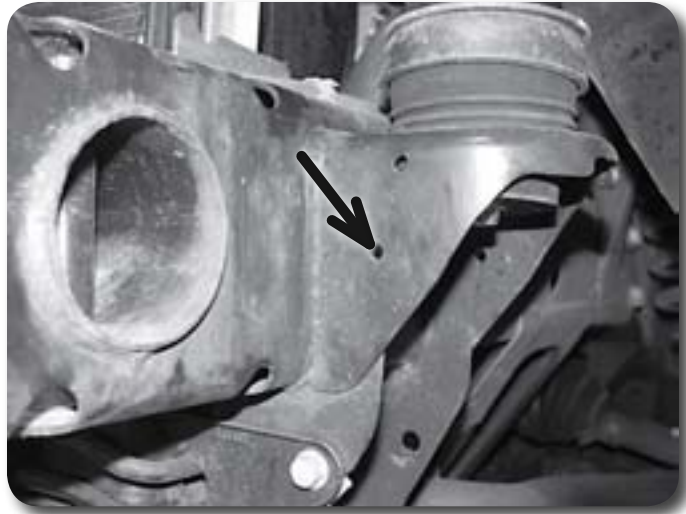

Figure 25
44. Locate the existing holes in the front frame body mount. Drill the hole (one on each side of the vehicle) to 7/16" **Figure 25**.